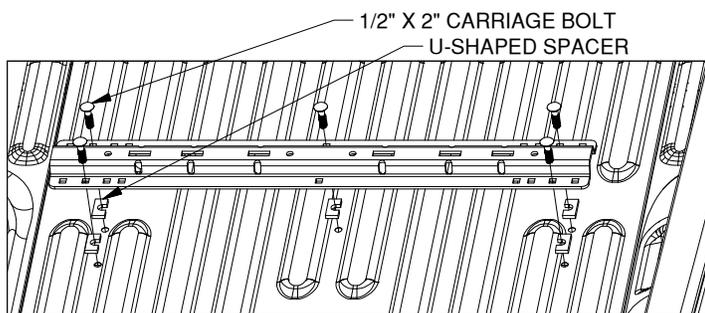

FIGURE B1: View looking into truck bed from rear of truck.
1. **The forward mounting rail.** Re-position the forward mounting rail over the drilled 9/16" holes in the bed. Place a 1/2" X 2" carriage bolt through the mounting rail and into each of the 5 drilled locations. Place a U-shaped washer between the bed and the mounting rail at the five drilled positions, see Figure B1.